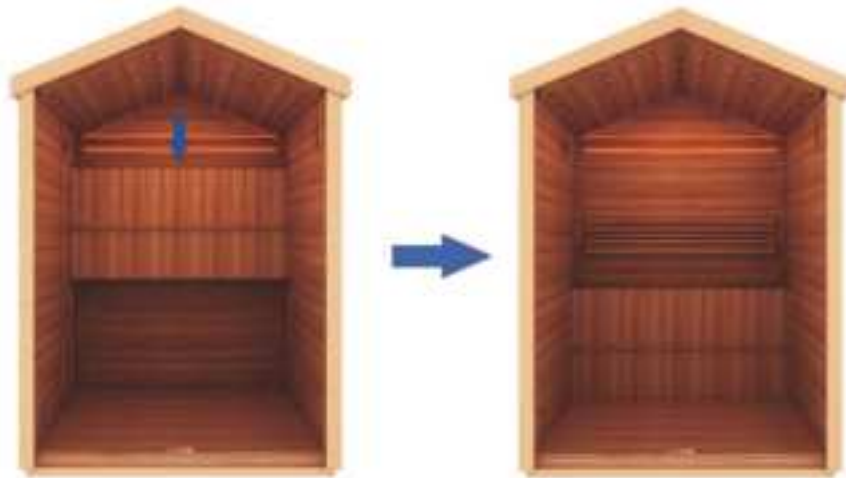

Figure 5
2. You will now need to use the provided screws to mount the Roof PANEL to the side wall panels and front/rear wall panels from the interior of the sauna room. (see Figure 5)